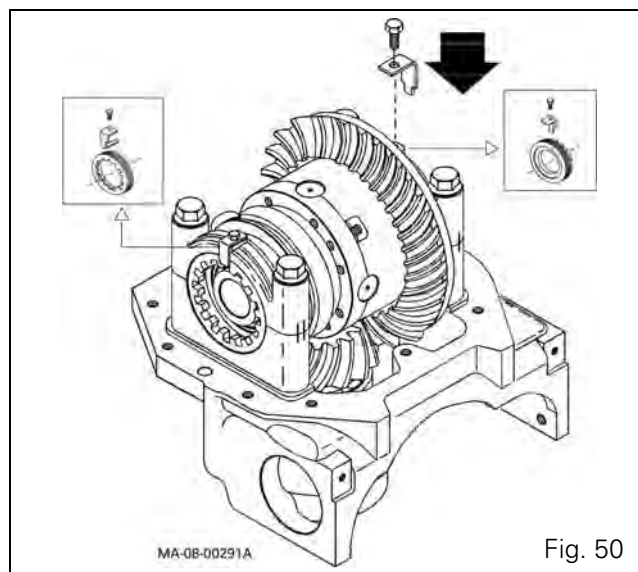

Fig. 50
55. When the shimming procedure is complete, fit the nut retainers with their screws and tighten to the required torque (13 Nm) using a torque wrench (Fig. 50).